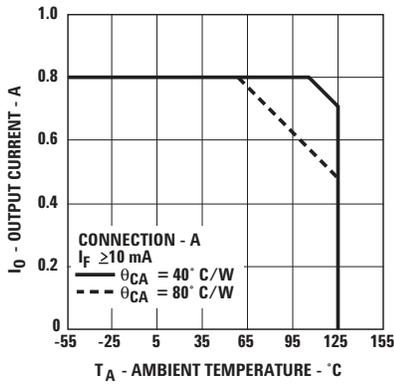
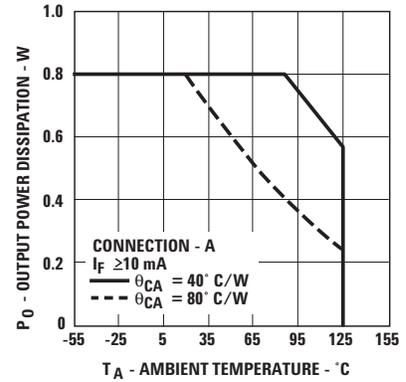

Figure 2. Maximum Average Output Current Rating vs. Ambient Temperature.
Figure 4. Output Power Rating vs. Ambient Temperature.
- For rating, see Figure 4. The output power  $P_O$  rating curve is obtained when the part is handling the maximum average output current  $I_O$  as shown in Figure 2.
IN ORDER TO DETERMINE  $V_{OUT}$  CORRECTLY, THE CASE TO AMBIENT THERMAL IMPEDANCE MUST BE MEASURED FOR THE BURN-IN BOARDS TO BE USED. THEN, KNOWING  $\theta_{CA}$ , DETERMINE THE CORRECT OUTPUT CURRENT PER FIGURES 2 AND 4 TO INSURE THAT THE DEVICE MEETS THE DERATING REQUIREMENTS AS SHOWN.
The output on-resistance,  $R_{ON}$ , specified in this data sheet, is the resistance measured across the output contact when a pulsed current signal ( $I_O = 800 \text{ mA}$ ) is applied to the output pins. The use of a pulsed signal ( $\leq 30 \text{ ms}$ ) implies that each junction temperature is equal to the ambient and case temperatures. The steady-state resistance,  $R_{SS}$ , on the other hand, is the value of the resistance measured across the output contact when a DC current signal is applied to the output pins for a duration sufficient to reach thermal equilibrium.  $R_{SS}$  includes the effects of the temperature rise of each element in the thermal model. Rating curves are shown in Figures 2 and 4. Figure 2 specifies the maximum average output current allowable for a given ambient temperature. Figure 4 specifies the output power dissipation allowable for a given ambient temperature. Above  $55^\circ\text{C}$  (for  $\theta_{CA} = 80^\circ\text{C/W}$ ) and  $107^\circ\text{C}$  (for  $\theta_{CA} = 40^\circ\text{C/W/W}$ ), the maximum allowable output current and power dissipation are related by the expression  $R_{SS} = P_{O(max)} / (I_{O(max)})^2$  from which  $R_{SS}$  can be calculated. Staying within the safe area assures that the steady-state junction temperatures remain less than  $150^\circ\text{C}$ . As an example, for  $T_A = 95^\circ\text{C}$  and  $\theta_{CA} = 80^\circ\text{C/W}$ , Figure 2 shows that the output current should be limited to less than  $610 \text{ mA}$ . A check with Figure 4 shows that the output power dissipation at  $T_A = 95^\circ\text{C}$  and  $I_O = 610 \text{ mA}$ , will be limited to less than  $0.35 \text{ W}$ . This yields an  $R_{SS}$  of  $0.94 \Omega$ .